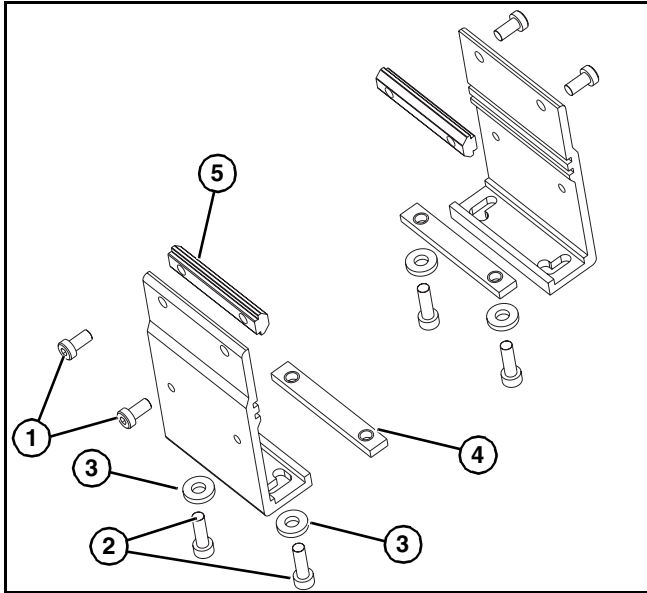
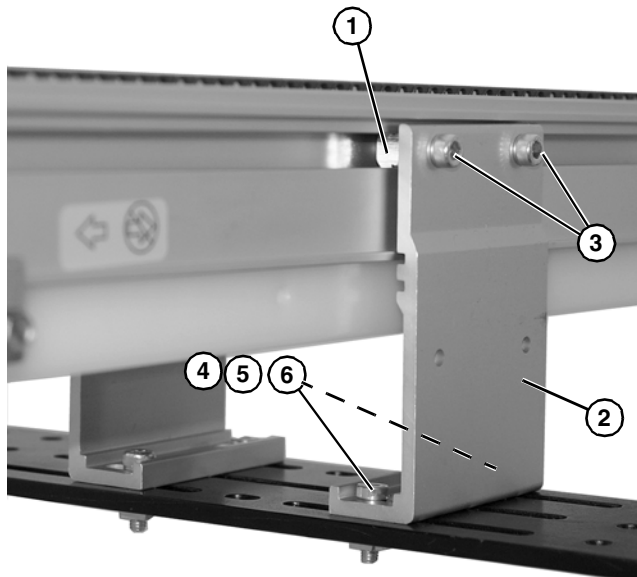

Figure 7
Figure 8
1. Locate brackets. Exploded view shown in Figure 7.
2. Remove screws (Figure 7, item 1 & 2), washers (Figure 7, item 3), connector bars (Figure 7, item 4) and T-bars (Figure 7, item 5) from brackets.
3. Insert T-bars (Figure 7, item 5) into conveyor side slots (Figure 8, item 1). Fasten brackets (Figure 8, item 2) to conveyor with mounting screws (Figure 8, item 3).
4. Fasten brackets to support stand with mounting screws (Figure 8, item 4), washers (Figure 8, item 5) and nuts (Figure 8, item 6).
5. Tighten screws (Figure 8, item 3 & 4) to 60 in-lb (7 Nm).